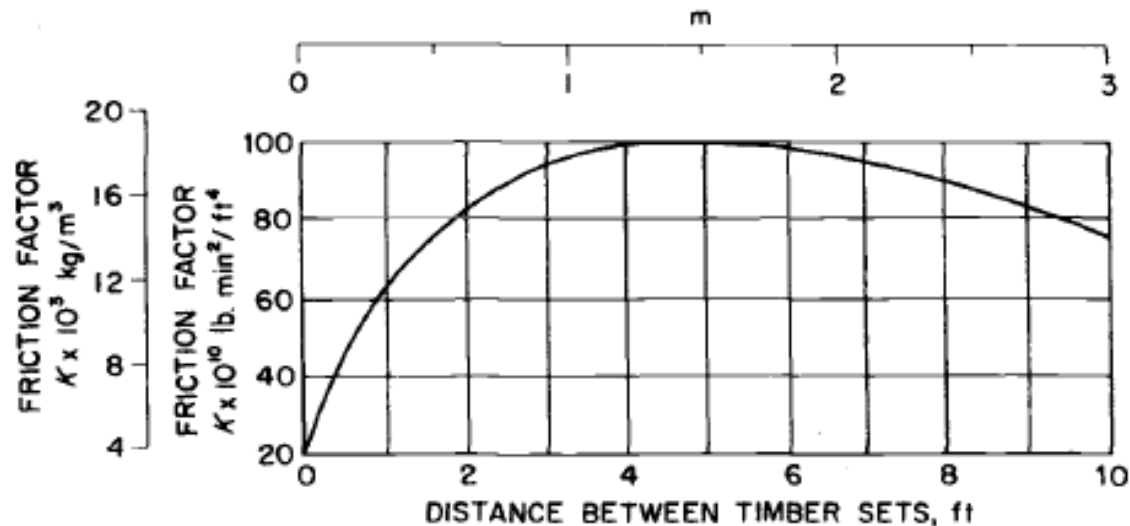

FIGURE 5.11 Effect of spacing of timber sets on friction factor K . (After McElroy, 1935.)
- If the airway is timbered and the sets are spaced on other than 5-ft.(1.5-m) centers, **modify** K according to Fig. 5.11. If roof bolting is used in place of timbering, assume an unlined airway.